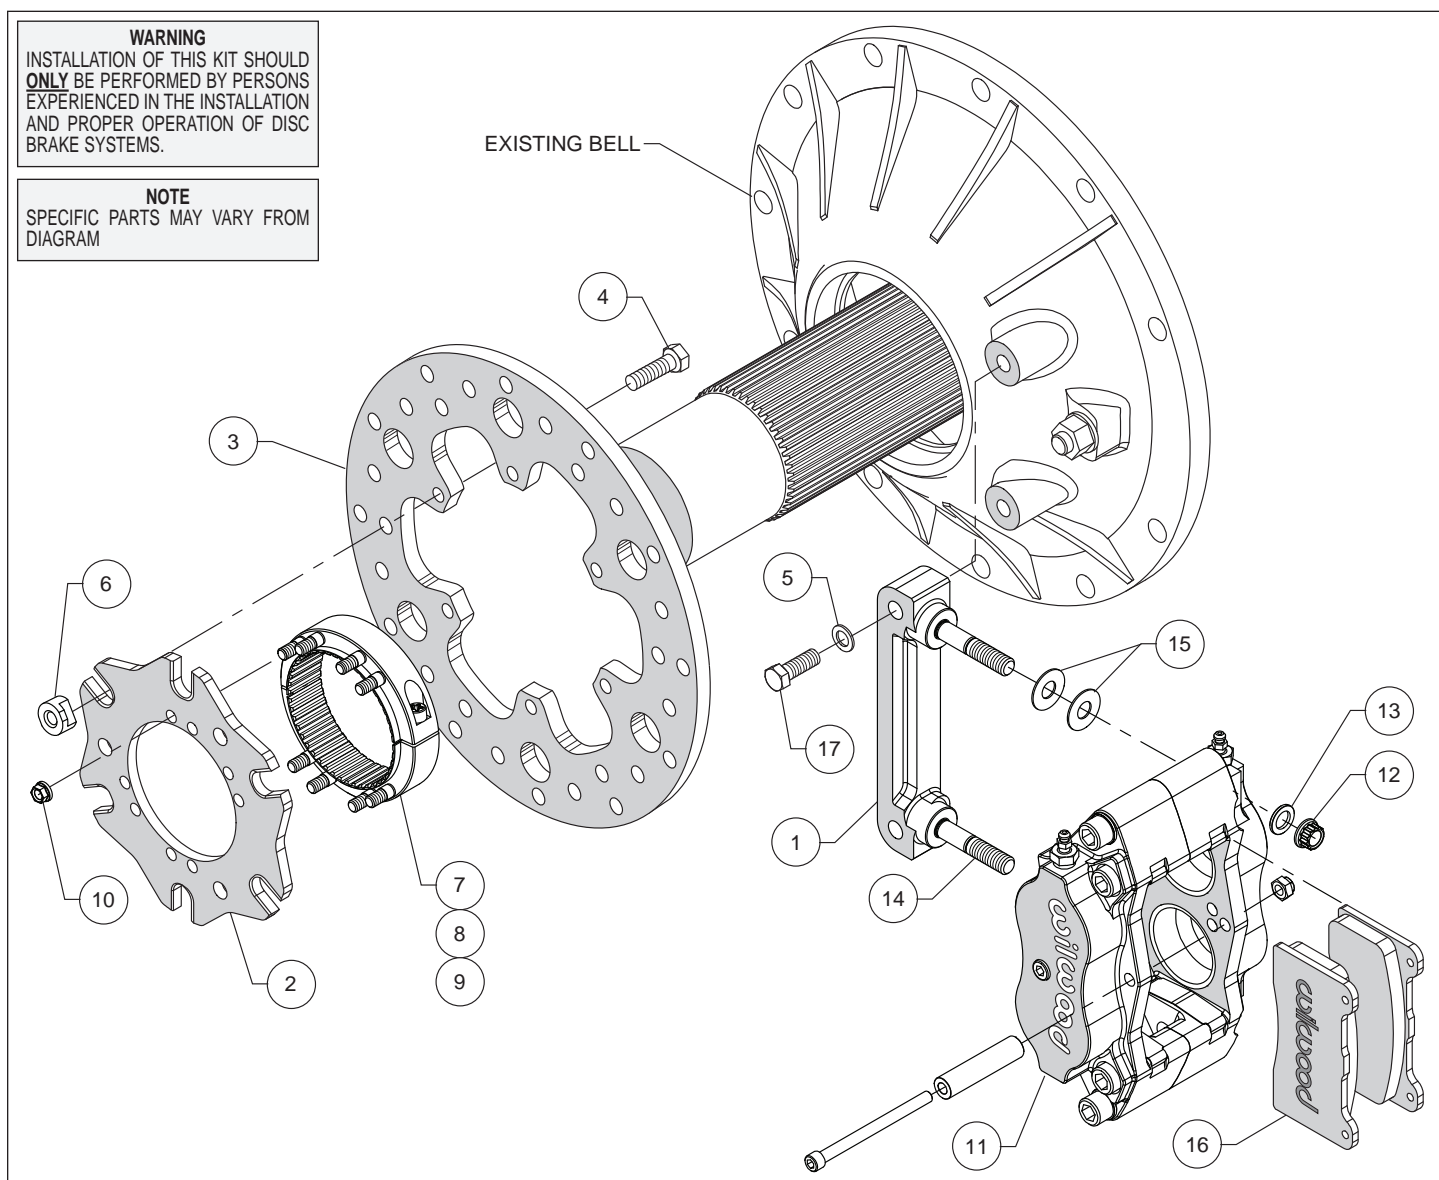

Figure 1. Typical Installation Configuration
- Orient the bracket (1) as shown in Figure 1, and install using bolts (17), and washers (5). Temporarily tighten the mounting bolts. **NOTE:** The bracket must fit squarely against the mount bosses on the bell. Inspect for interference from casting irregularities, machining ridges, burrs, etc. Remove the bracket mounting bolts one at a time, apply red *Loctite*® 271 to the threads, and torque to 35 ft-lb.
- Orient the rotor adapter (2) and the rotor (3), as shown in Figure 1, and attach using bolts (4), and t-nuts (6), Figure 1. Apply red *Loctite*® 271 to the threads before installing. Finger tighten. After all t-nuts have been installed, torque bolts in an alternating sequence to 220 in-lbs. Please refer to Wilwood's data sheet DS-669 (available at www.wilwood.com/Pdf/DataSheets/ds669.pdf) for complete t-nut bolt kit installation instructions.
- Orient the axle clamp assembly (7, 8 and 9, pre-assembled) as shown in Figure 1 and install onto the rotor adapter (2) using nuts (10). Tighten nuts part way while still allowing clamp-to-rotor movement. The nuts will be torqued later, after aligning the rotor. **NOTE:** *The axle clamp should be positioned inside of the rotor as shown in Figure 1, not offset, or outside of the rotor adapter.*
- Lubricate the caliper mounting studs (14) with lightweight oil. Initially place two .035" thick shims (15) on each stud as shown in Figure 1. Mount the caliper (11) onto the bracket (1) using lock nuts (12) and washers (13), Figure 1. Temporarily tighten the lock nuts and view the rotor through the top opening of the caliper. The rotor should be centered in the caliper. If not, slide the rotor/adapter assembly on the axle until the rotor is centered in the caliper. Tighten the clamp bolts (9) first, locking the clamp to the axle. Torque nuts (10) to 140 in-lbs.
- Remove the caliper center bridge pad retainer bolt, nut, and tube from the caliper. Insert the brake pads (16) into the caliper, with the friction material facing the rotor. Check that the top of the brake pad is flush with the outside diameter of the rotor. If not, adjust by adding or subtracting shims (15) between the caliper and the bracket. After the caliper pad height is set, torque the caliper lock nuts (12) to 30 ft-lb. Secure the brake pads in place with the center bridge pad retainer tube, bolt, and locknut. The locknut should be snug without play in the bolt or tube. Be cautious not to over tighten.